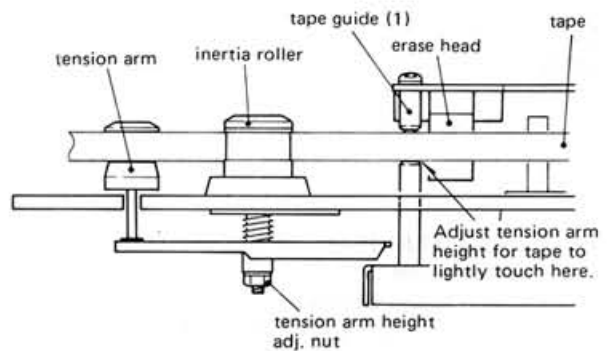

Fig. 2-21 Tension arm height adjustment
1. Running a TEAC YTT-8013 test tape (thickness = 35 $\mu$ m) in the forward direction, adjust the height of the left tension arm so that the lower edge of the tape is just touching the lower edge of the tape guide (1). See Fig. 2-21. Also refer to 2-10 TENSION ARM HEIGHT ADJUSTMENT".
2. Adjust the height of the tape guide (2) so that the upper edge of the tape is in contact with the upper edge of the tape guide.
4. Apply locking paint to the height adjusting nut of the tape guide (2).
5. During reverse play, adjust height of tape guides (3) and (4) in the same way as steps 1 ~ 4. For tape guide (4), adjust right tension arm height.